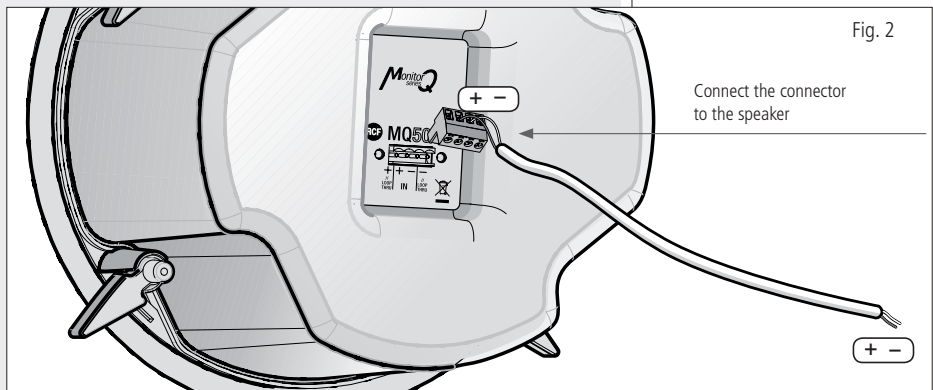

Fig. 2
2. Connect the negative terminal (-) of the speaker to the "negative" (-) of the audio line, that leads from the amplifier terminal marked -, "0" or "COM" tap of the amplifier (Fig. 2).